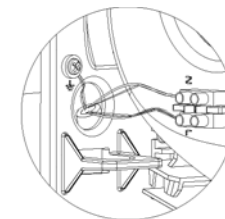

Fig. 8
4.- Connect the Neutral and Line (N, L) wires to the terminal block and the A/V cable to the earth connection screw (Class I) (see figure 8).